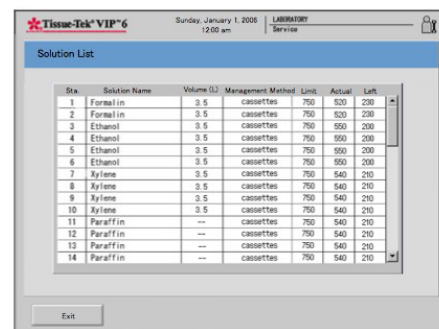

Figure 3-VVV
- The Solution List screen displays (Figure 3-VVV).